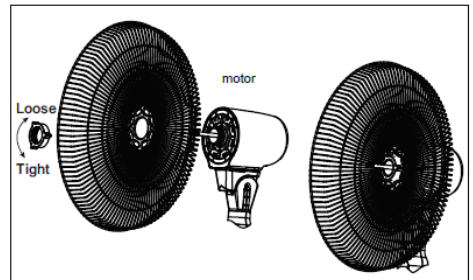

fig. 4
4. Place the rear grill in front of the motor and secure with its nut (fig. 4).